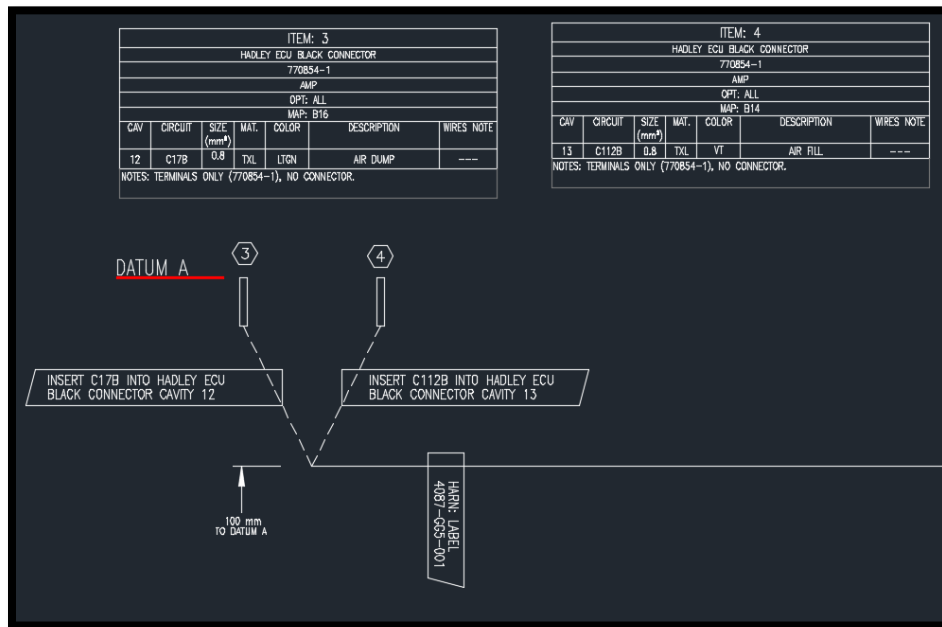

FIG. 8-2
23. Insert C17B (LTGN-18GA) into black connector on Hadley ECU (cavity 12). Refer to FIG. 8-2.